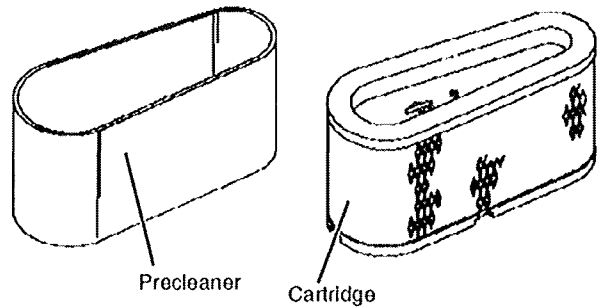

FIG. 29
- Slide foam pre-cleaner off cartridge. (See Fig. 29)